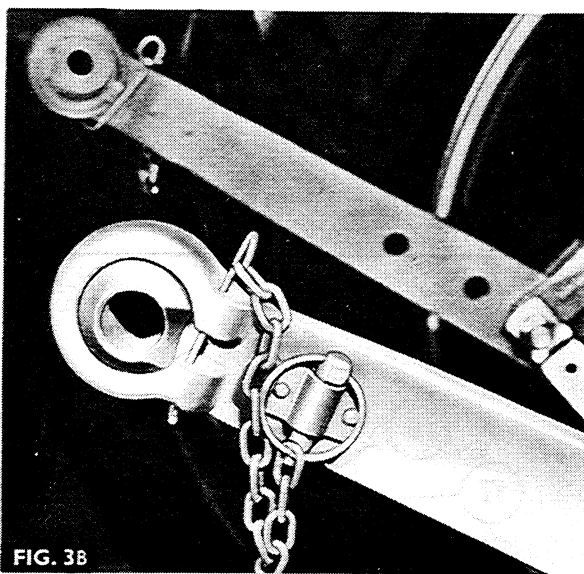

FIG. 3B
3. Fig. 3B. Fit the new ball by locating it with the narrow section in line with the slot, then refit the spring clip, as shown.